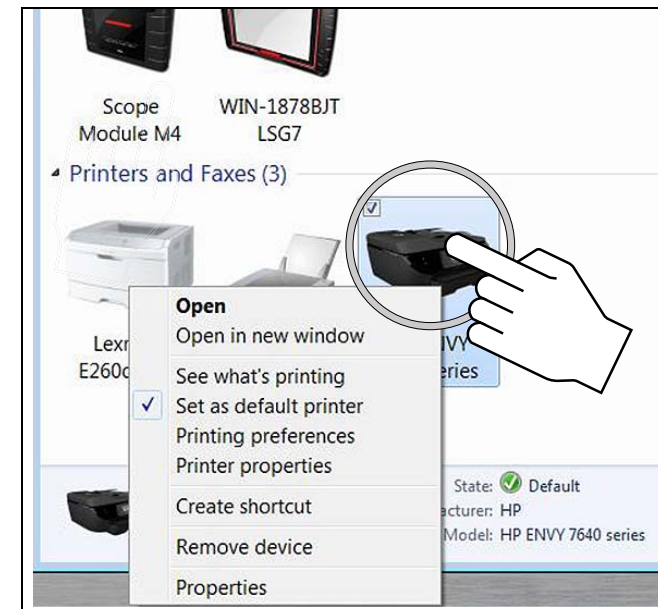

Figure 1-21
3. Touch and hold the icon of the printer you want to set as the default, until the optional menu indicator (circle outline) appears (Figure 1-21) and then release (this is also known as right-click menu). From the menu, select "**Set as default printer**". When set, a check mark is displayed next to the option (Figure 1-21).